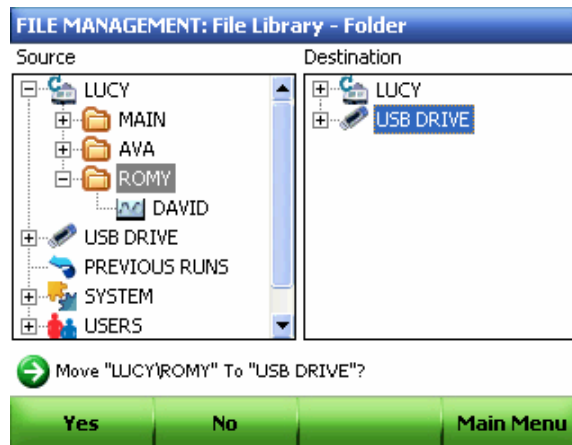

Figure 84. The source and destination folders are highlighted in this example.
- Using the up and down arrow keys, select new destination for the folder as shown in Figure 84.